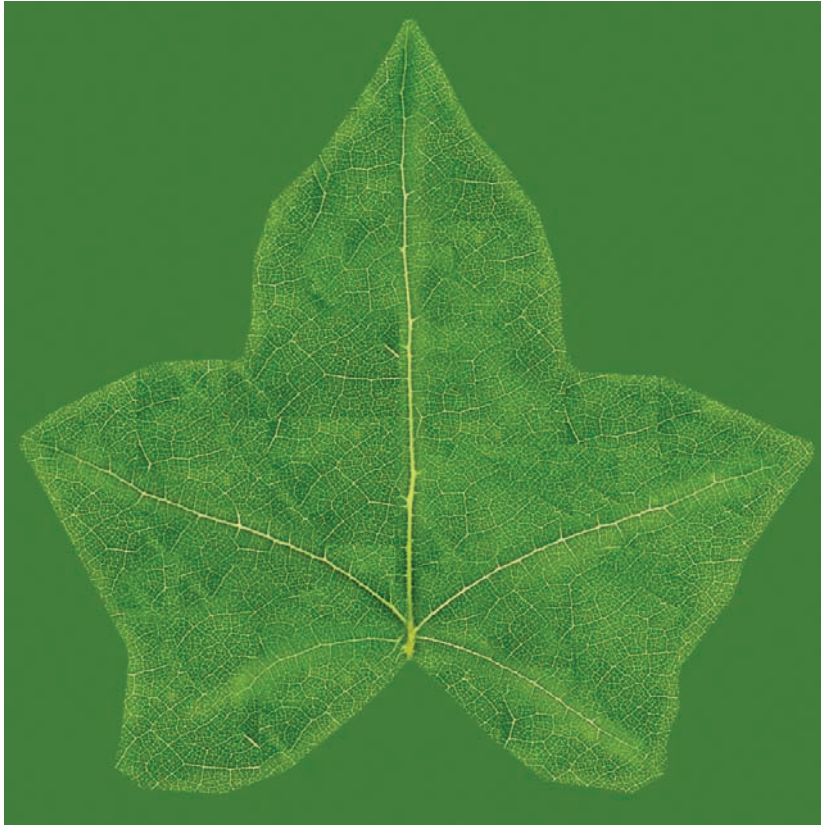

Figure 2.14
9. Create a Hue/Saturation adjustment layer and increase the Lightness to **+20**. Rename it **Highlights**. Fill the mask with black and, using a soft white brush, paint in the mask to apply the adjustment layer's effect. Paint along the edges and veins of the leaf. Once done, you should have something like what you see in Figure 2.14.